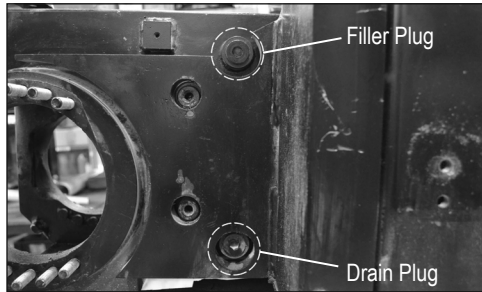

FIG. 1
1. Remove filler plug (Figure 1).
2. Drain fluid by removing the drain plug from side of tank (Figure 1). This unit contains 6 gallons (22.7 liters) of fluid. Ensure the container size is adequate to catch fluid.
4. Remove filler plug (Figure 1).